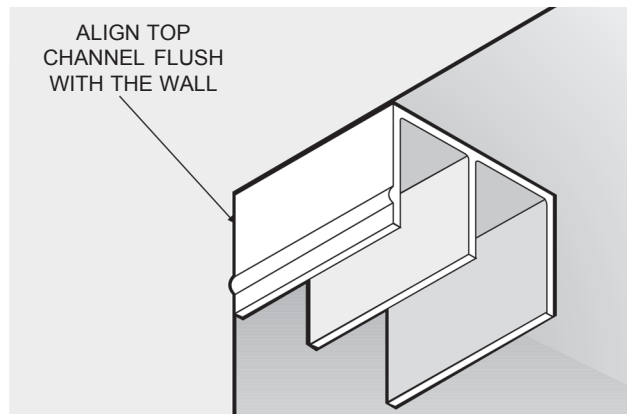

Figure 1
- C. When cut to proper length, install Top Channel (#2) up to the top front of closet opening making sure that the front of the Top Channel (#2) is flush with outside walls (See Figure 1). Hold up the Top Channel (#2) in the desired position and with your Pencil, mark where the pre-drilled holes are in the Top Channel (#2).